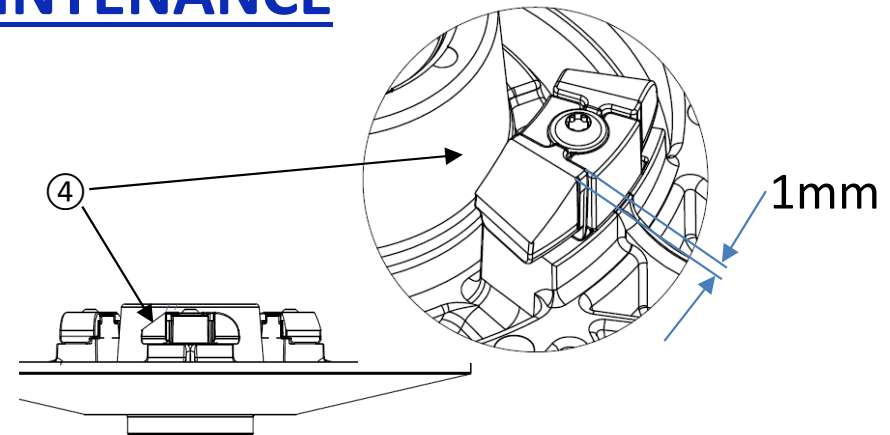

Figure 25
- If the cam shoes (4) are worn down to about 1 mm before making contact with the cam shoe support, they must be replaced (figure 25).